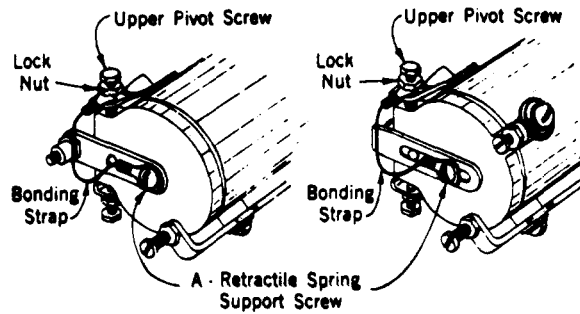

Fig. 2 - Flexible Bonding Strap in Place on Nos. 114, 124, 126, 174 and 198 Type Relays Without Feather Spring.
3.08 With the screwdriver loosen the retractile spring support screw indicated as A in Fig. 2. Place the other cord tip between the head of the screw and the washer which is regularly provided, with the wiring end of the terminal extending directly to the left. Retighten the screw.
3.09 Dress the wire so that it will take the approximate position shown in Fig. 2.